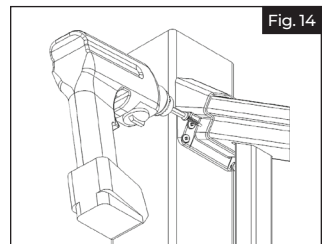

Fig. 14
- b. Pre-drill one side (outside of the stair rail installation) of the top rail bracket with  $\frac{5}{32}$ " drill bit. Hole should be oriented as shown (Fig 14). Drive #10 x 1" pan head square drive screw through bracket and rail.